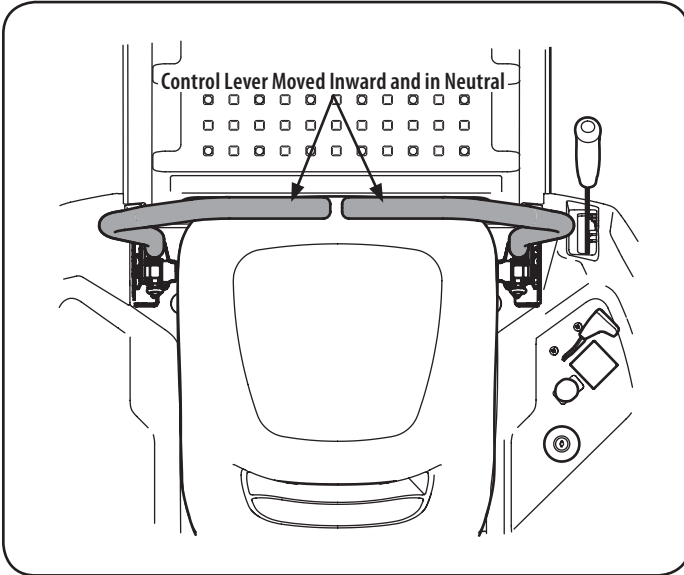

Figure 9
2. Move the RH and LH drive control levers inward in the neutral position. Refer to "Figure 9".